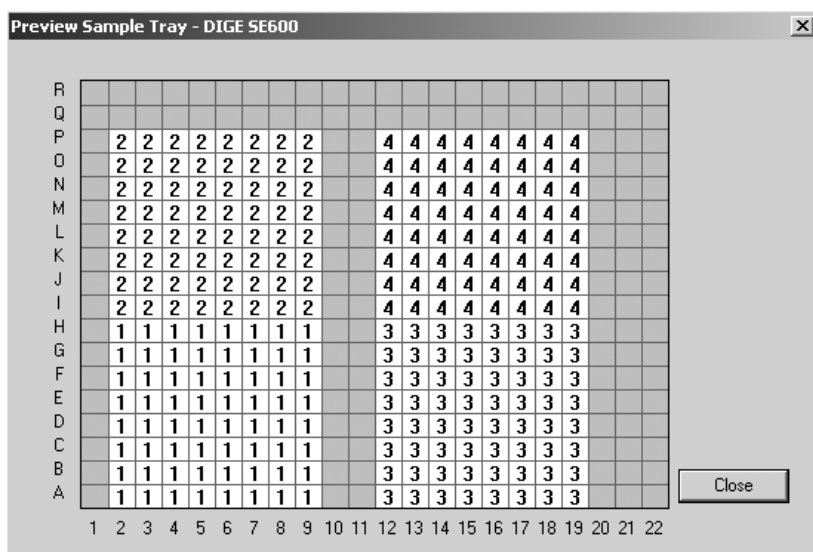

Fig 3-7. The Preview Sample Tray window.
- 13 Click **Preview**. The Preview Sample Tray window appears and displays the scan areas for the samples you defined (fig 3-7).
- 8 Click **Preview**. The Preview Sample Tray window appears and displays the scan areas for the samples you defined (fig 3-7).